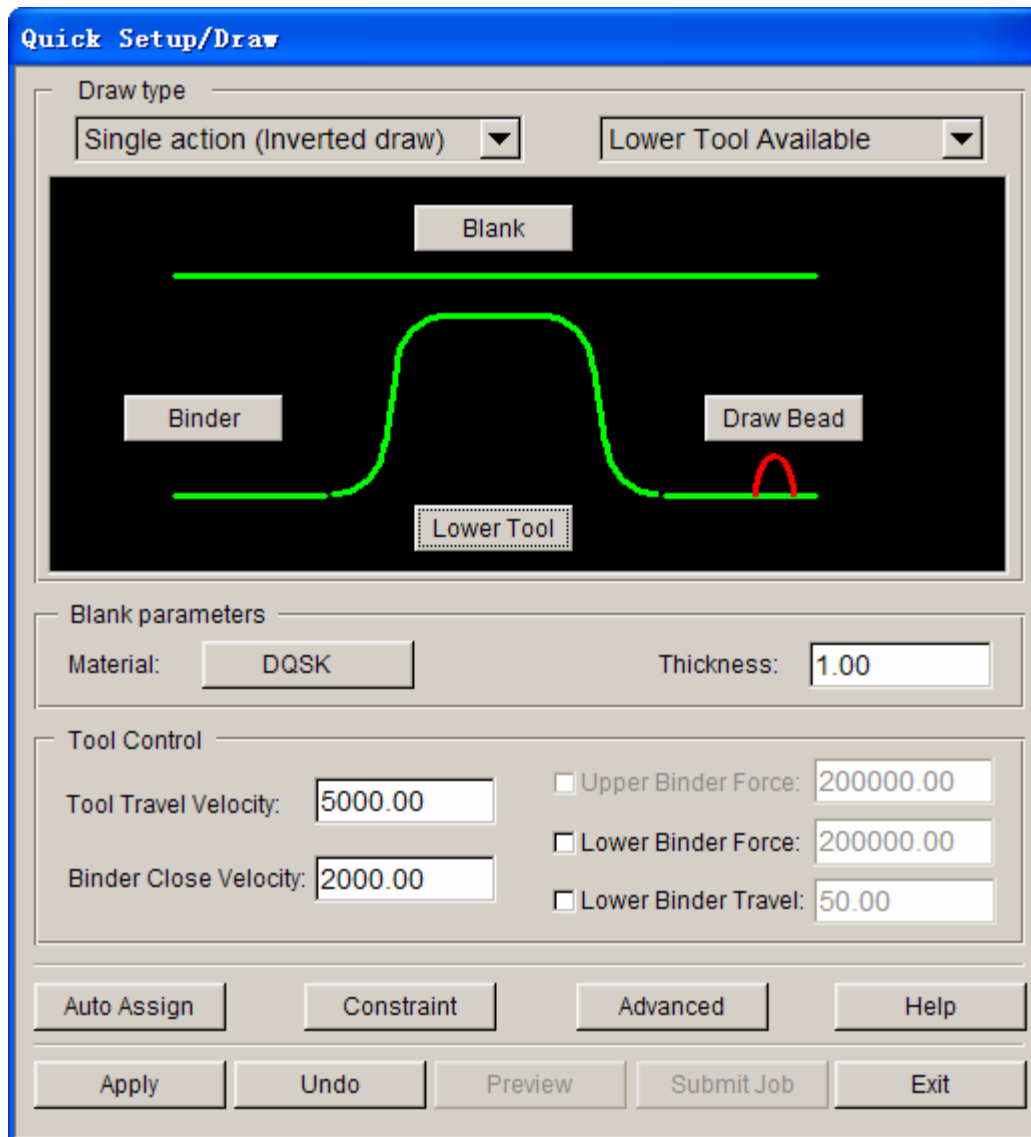

Figure 56: QuickSetup GUI after tools and blank are defined
10. Now, select **Apply** illustrated in Figure 56. The QuickSetup will automatically create mating tools, position the tools and generate the corresponding travel/force curves. Both **Preview** and **Submit Job** function are activated.